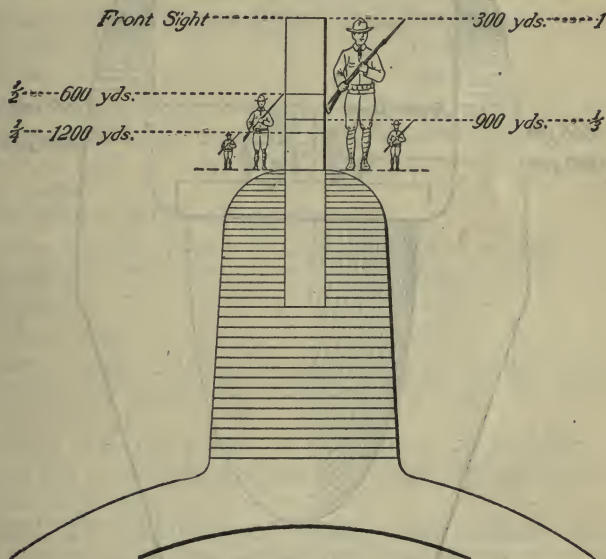

FIG. 26.—Front Sight Method for Estimating Ranges.
**For Model 1903:** (Fig. 26.)